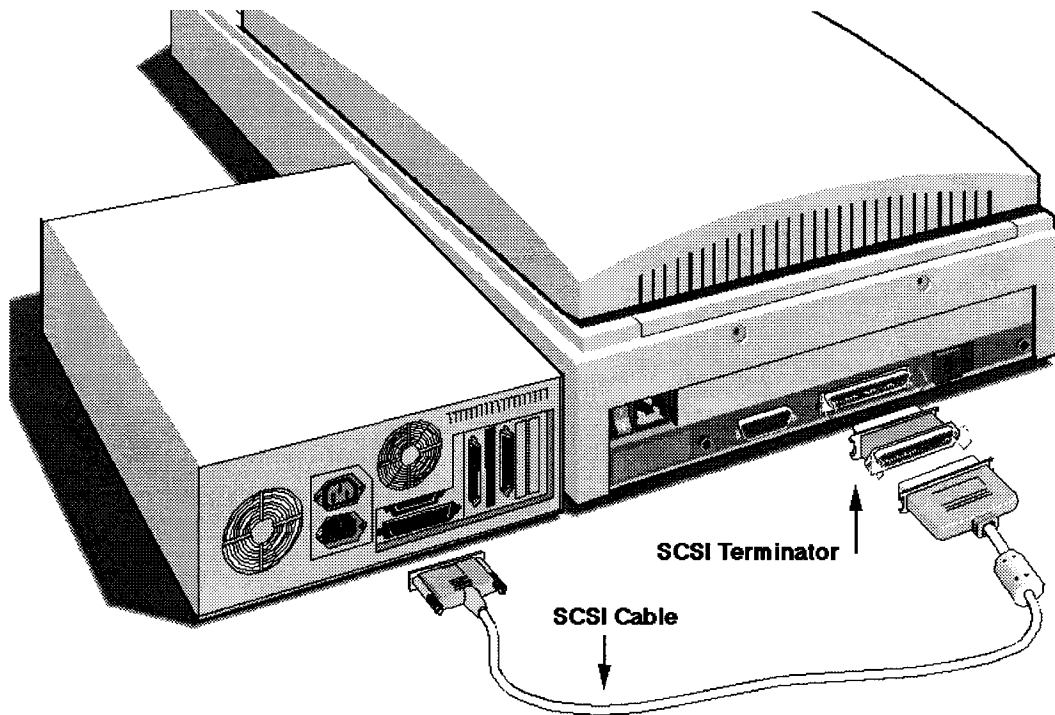

Fig. 3.5 Connecting the Model GS-700 to a PC computer where the Densitometer is the only SCSI device.
1. Connect one end of the SCSI cable to the SCSI port at the rear of your PC (Figure 3.5).